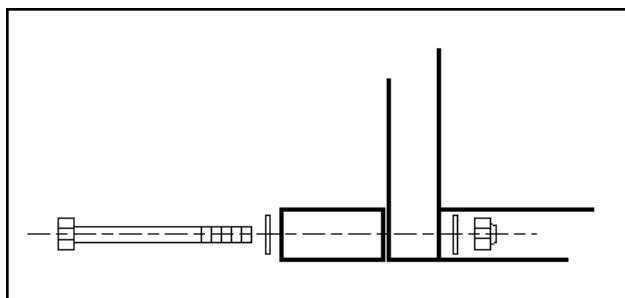

figure 1
2. Fasten the base and upright together using 5/16 hex screws, washers and nyloc nuts as shown in *figure 1*